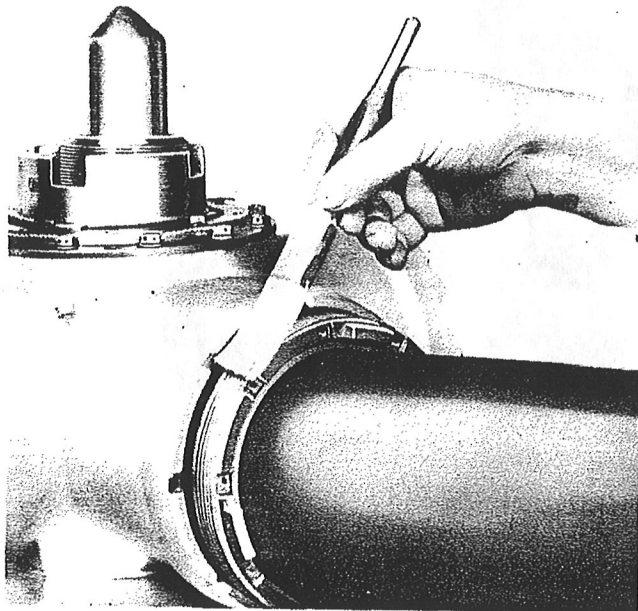

Figure 13—Applying Anti-seize to Blade Retaining Nut
- l. Apply a light coat of anti-seize compound, Specification No. AN-C-53, (Alternate, 70% white lead, 30% clean engine oil by volume) to the threads of the blade retaining nuts (see figure 13) and to the threads in the hub sockets.